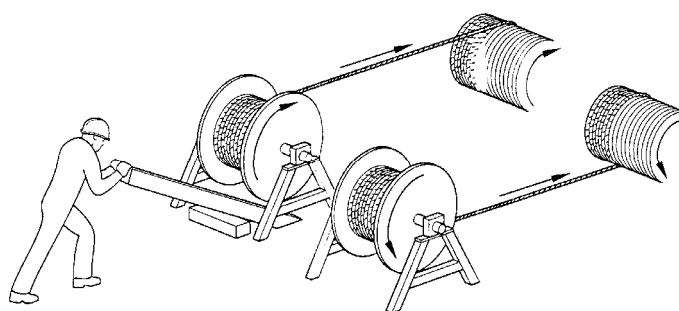
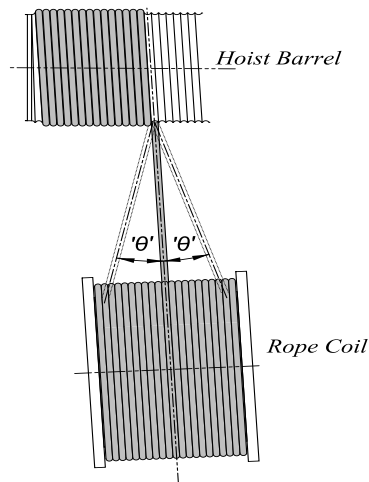

Figure 51 – Winding of new wire ropes
Figure 52 - Fleet angle
If it is not possible to uncoil the rope prior to fitting, the rope may be transferred directly from the reel to the hoist barrel. Place the reel on a suitable stand and ensure that the reel can rotate freely. When winding from reel to barrel the rope should be bent in the same direction. Wind from top of reel to top of barrel or from bottom of reel to bottom of barrel (see Figure 51).
- Transfer the new rope onto the hoist barrel. Ensure that sufficient tension is applied to the reel to prevent loops from forming. Tension can be applied with suitably gloved hands or with a brake on the reel (see Figure 51). During installation, also ensure that the fleet angle 'θ' does not exceed $1\frac{1}{2}^\circ$, (see Figure 52).